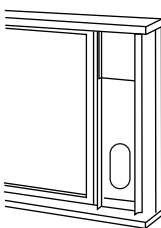

Fig. 14
3. Cut the foam seal (adhesive type) to the proper length and attach it on the top of the window. Shown as in Fig. 14.